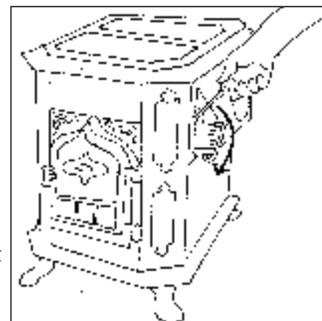

Figure 1:
1. Open the catalytic bypass damper by pushing the lever with the black knob all the way down. This will open the bypass door. (Fig. 1)